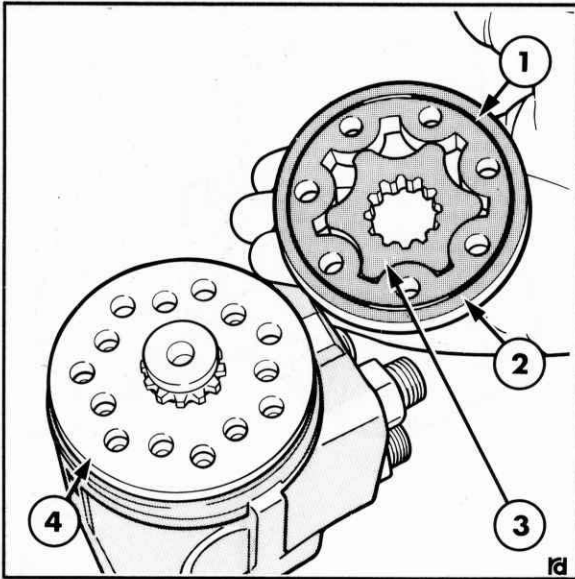

Figure 7-25
3. Remove the metering unit from the steering motor housing together with its O ring seals, Figure 7-25. Note the mating surfaces of the metering unit and valve plate for correct reassembly.